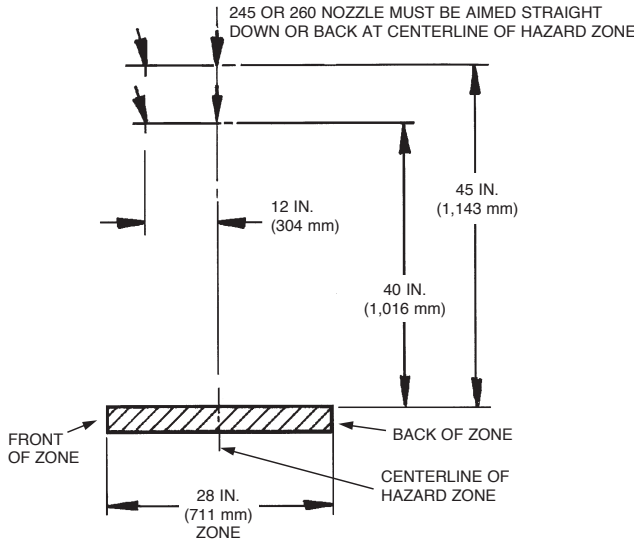

FIGURE 4-141
3. The overlapping appliance nozzles must be located 40 in. to 45 in. (1,016 mm to 1,143 mm) above the top surface of the protected appliances. See Figure 4-141.
The overlapping appliance nozzles must be located 0 in. to 12 in. (0 mm to 304 mm) forward of the centerline or aimline of the selected hazard zone. See Figure 4-141.